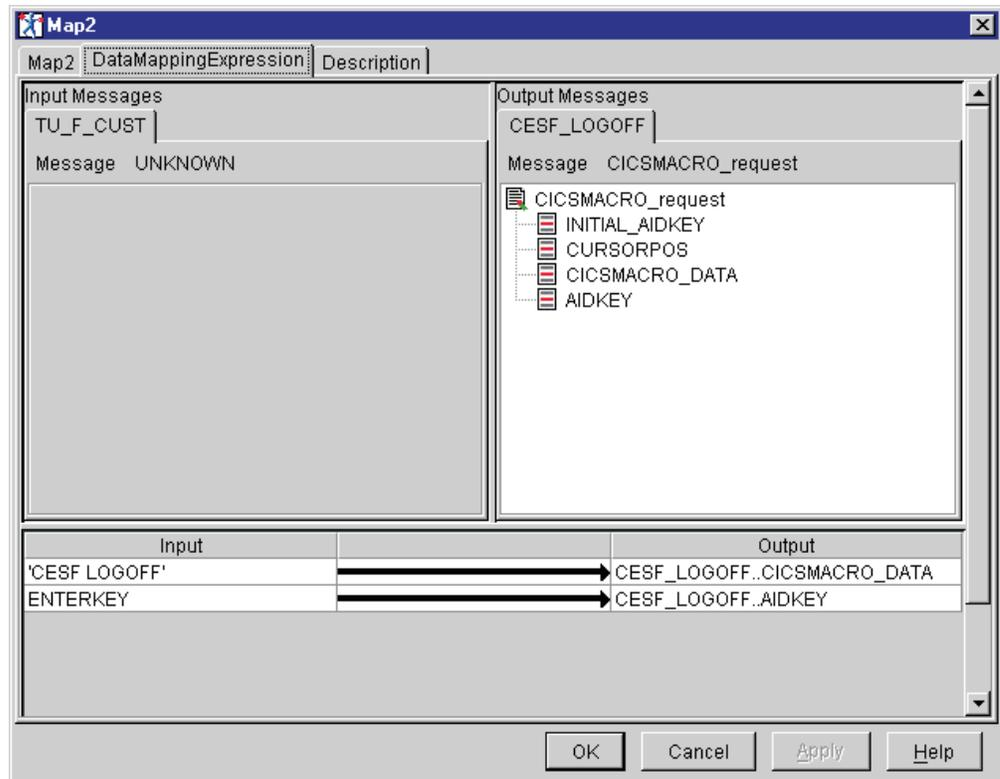

Figure 142. Mapping for Map2 node
- 2) Perform the mapping for the Map2 node as listed in Table 64 and shown in Figure 142 on page 185. This mapping occurs in the case where an Unknown screen is received from the TU\_F\_CUST command. The mapping sets the REPLY\_IND to 'E' and creates an error message. Right click on the Map2 node (the Map node that appears between the TU\_F\_CUST and CESF\_LOGOFF nodes) and select **Properties**. Click the DataMappingExpression tab.